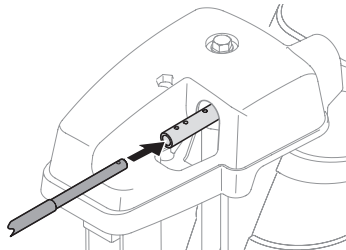

Figure 2-40
2. Insert round end of chute control rod into chute control head. Push rod as far into chute control head as possible, keeping holes in rod pointing upward. See Figure 2-40.